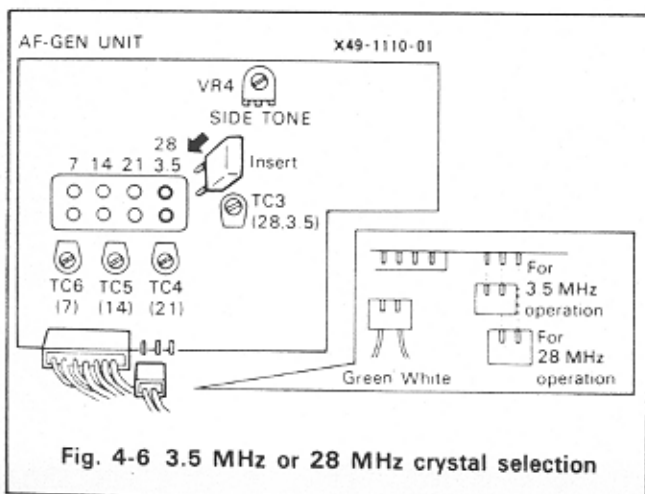

Fig. 4-6 3.5 MHz or 28 MHz crystal selection
4.5 FIXED CHANNEL OPERATION (Fig. 4-6)
The TS-120S(V) has a built-in crystal-controlled oscillator for fixed-channel operation. This feature is most useful for commonly used frequencies, nets, or any situation where crystal-controlled operation is required. To use the fixed-frequency oscillator, turn the FIX switch to the FIX position. The TS-120S(V) accepts a maximum of four crystals one each for the 7, 14, 21 and 28 MHz bands (the 28 MHz band includes 28.0, 28.5, 29.0 and 29.5 MHz, so it is possible to operate in 28.1, 28.6, 29.1 or 29.6 MHz with a 28.6 MHz crystal). For operation in the 3.5 MHz band, change the position of the connector from the 28 MHz to the 3.5 MHz position as shown in Fig. 4-6.